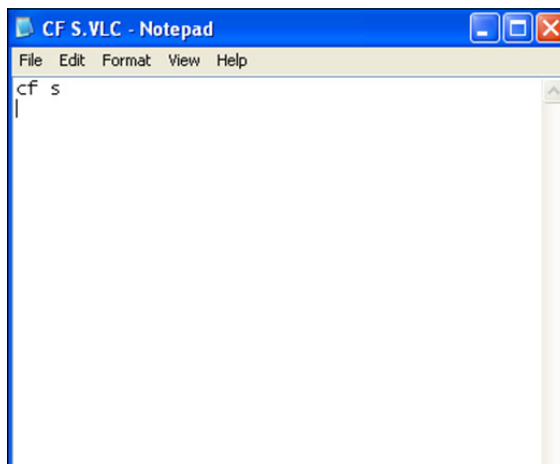

Figure 34: Replacing Settings
13. Erase all the current settings and replace them with **CF S**. Refer to **Figure 34**.